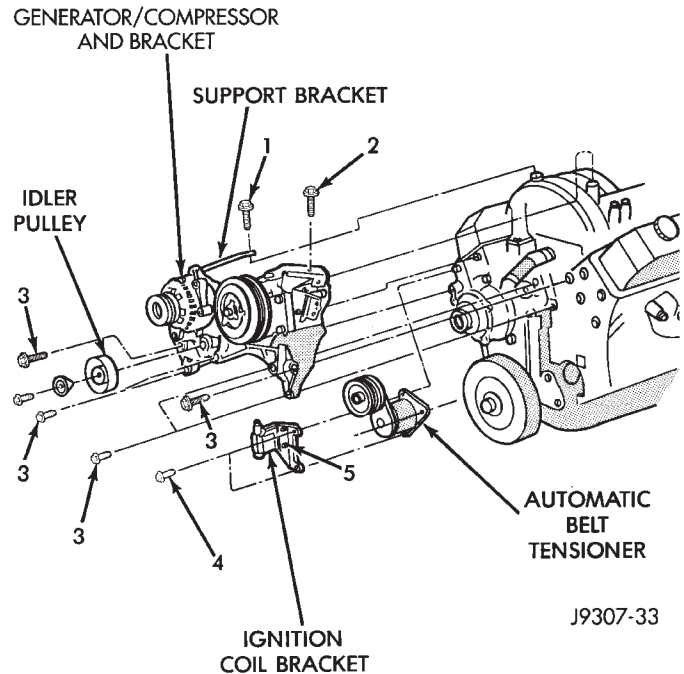

Fig. 29 Generator—A/C Compressor Mounting Bracket—3.9/5.2L/5.9L Engine
If equipped with A/C, the generator and A/C compressor along with their common mounting bracket (Fig. 29) must be partially removed. Removing generator or A/C compressor from their mounting bracket is not necessary. Also, discharging A/C system is not necessary. **Do not** remove any refrigerant lines from A/C compressor.
(7) The drive belt idler pulley must be removed to gain access to one of A/C compressor/generator bracket mounting bolts. Remove idler pulley bolt and remove idler pulley (Fig. 29).
(8) Remove oil dipstick tube mounting bolt at side of A/C-generator mounting bracket.
(9) Disconnect throttle body control cables. Refer to Accelerator Pedal and Throttle Cable in Group 14, Fuel System.
(10) Remove heater hose clamp and heater hose from heater hose coolant return tube.
(12) Remove bracket-to-intake manifold bolts (number 1 and 2—(Fig. 29).
(13) Remove six bracket bolts (number 3—(Fig. 29).
(14) Lift and position generator and A/C compressor (along with their common mounting bracket) to gain access to bypass hose. A block of wood may be used to hold assembly in position.
(15) Loosen and position both hose clamps to center of bypass hose. Remove hose from vehicle.
- (4) Install generator-A/C mounting bracket assembly to engine. Tighten bolts (number 1 and 2—(Fig. 29) to 54 N·m (40 ft. lbs.) torque. Tighten bolts (number 3—(Fig. 29) to 40 N·m (30 ft. lbs.) torque.